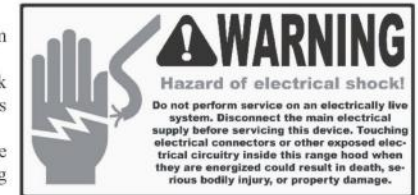

Figure 3A
2. Make sure the range hood is level and not tilted. Mark the locations of the hanging bracket holes on the wall as shown in Figure 3A and Figure 3B.